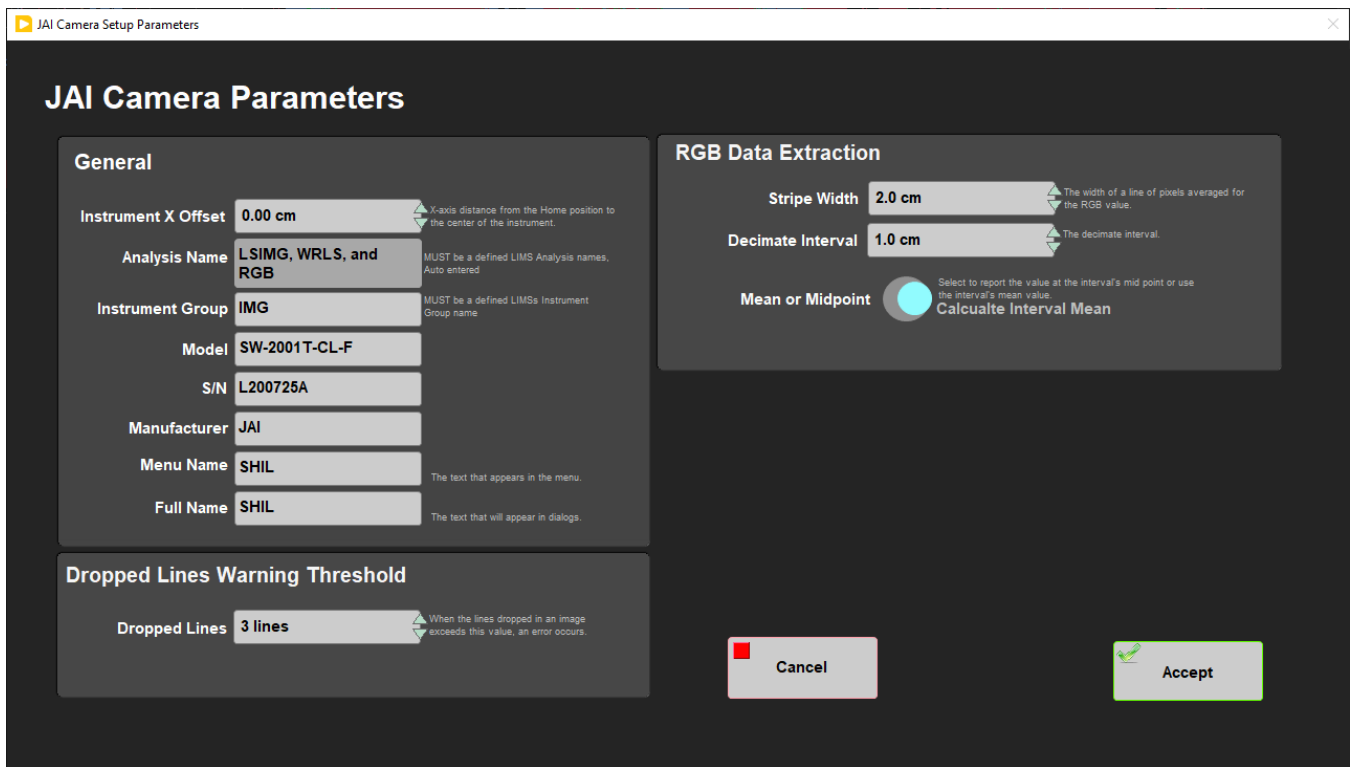

Figure 40. JAI Camera Setup Parameters window
2. Adjust values in the 'RGB Data' setting controls (Figure 40).